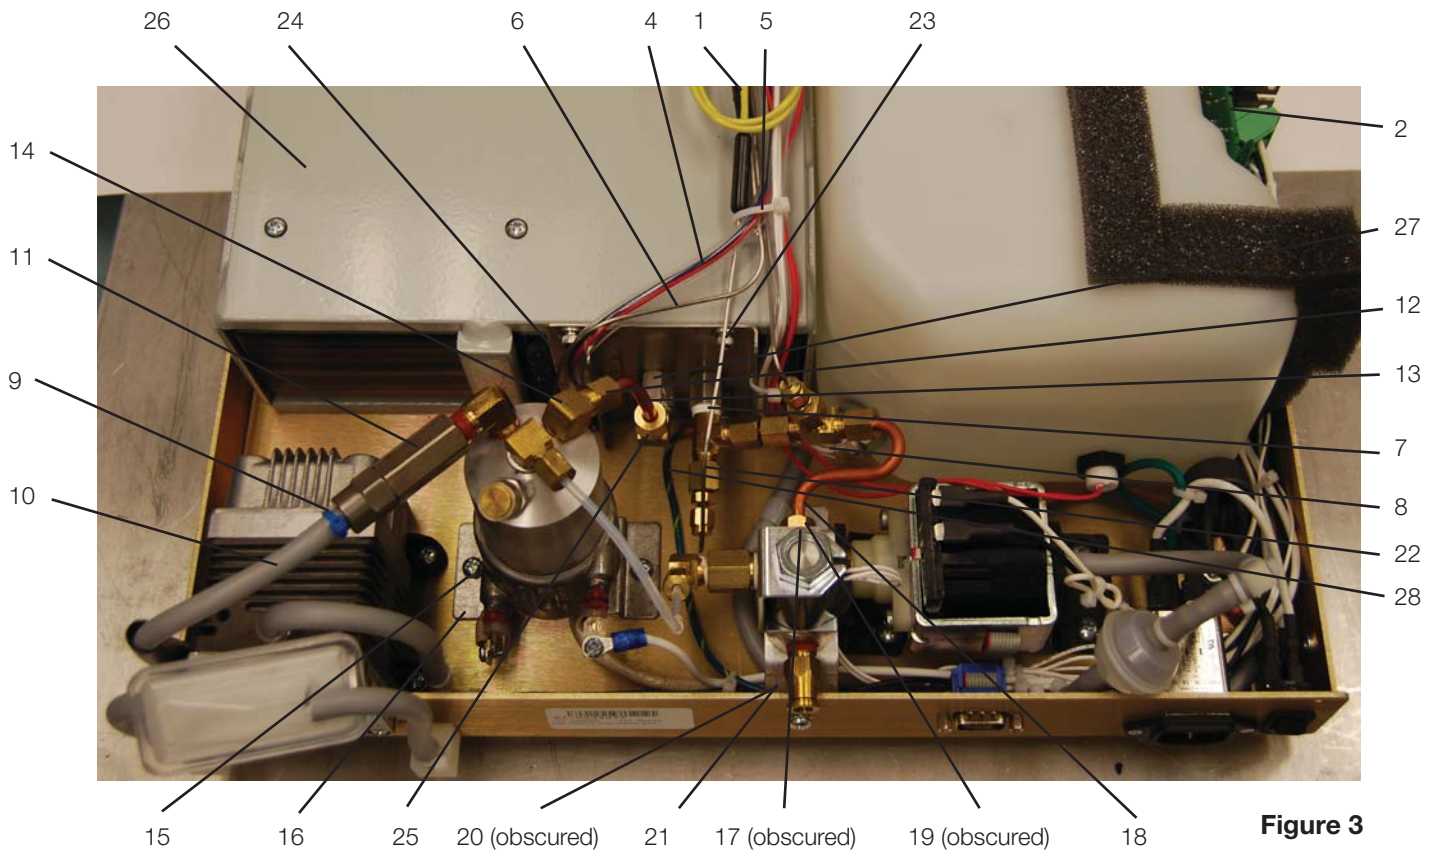

Figure 3
To remove the steam generator, proceed as follows (see Figure 3):
| 3. Flag terminal (See Figure 3) | 15. Screws for item 16 | 23. Cap screws with flat washers |
To reinstall the steam generator, proceed as follows (see Figure 3):
The unmarked lead is positive, +Y, and red lead is negative, -R. Connect the unmarked lead to the terminal marked +Y on the controller board. Connect the red lead to the terminal marked -R on the controller board. Make sure there is extra lead length so that the wires do not break as the screw is tightened. Ensure that the wires are seated securely behind the respective washers (see Chapter 7, Figures 3 and 4).
- b. **For revision 7.x controller boards.** Reconnect the chamber thermocouple plug to the socket on the controller board (see Chapter 7, Figures 3 and 4).
11. Bundle the chamber thermocouple lead (7), the steam generator thermocouple lead, the validation thermocouple lead (where fitted), pressure transducer leads (where fitted), micro switch leads (9) and reservoir sensor leads (10) together using nylon cable ties (6), approximately every 2-3 inches. Secure the wires to the top of the armature using the cable anchors provided.
12. Carefully push the compressor tube (14) (where a compressor is fitted) onto the check valve inlet (15) and secure the tube to the valve using a high temperature rated cable tie (13).
2. Referring to Chapter 7, Electrical and Electronic components, Figures 3 and 4, remove the pressure interface board or printer cable (if fitted) from the blue socket and disconnect the steam generator thermocouple wires from the controller board terminal positions BOILER +Y and -R and disconnect the ground lead terminal from the position marked BOILER directly above the terminals. Leave the screws with contact washers in the terminals.